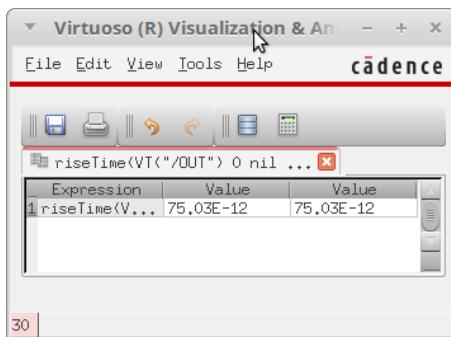

Figure 36: Print Rise Time
- The rise time is found equal to 75.03ps (Fig. 36).